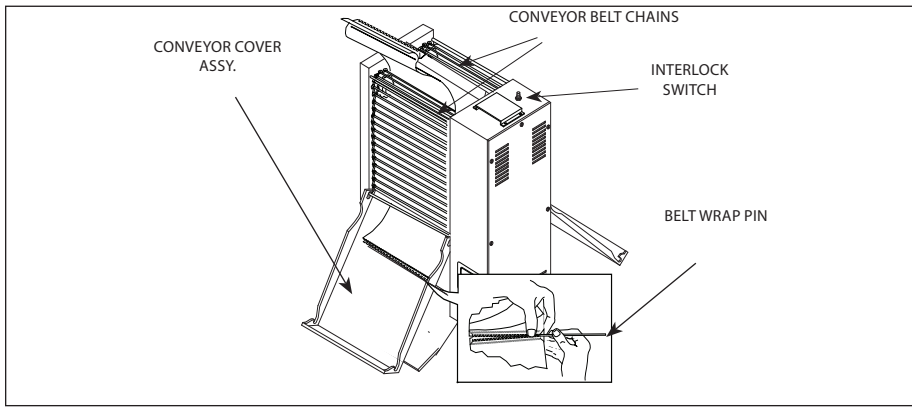

Figure 9. Removing Optional Belt Wrap
3. Open both Conveyor Covers and pull the Belt Wrap Pin out of the zipper (Figure 9).